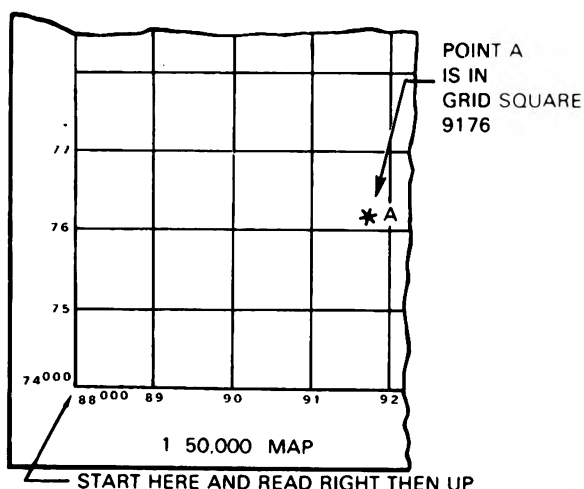

Figure 1.
1. First locate the grid square in which the Point is located (the Point should already be plotted on the map). (See figure 1.)